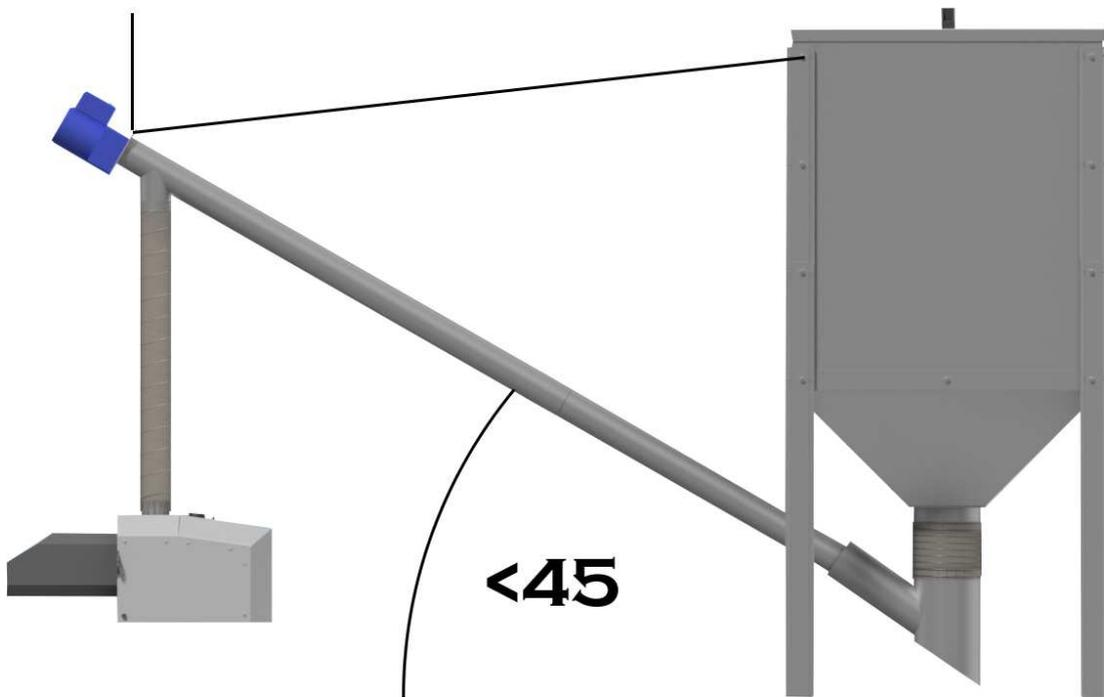

FIG. 2
5. Measure and adjust the pellet fuel feeder length; the angle between the floor and the fuel feeder duct must not be higher than 45°. (Ref. Fig. 2)
6. Suspend the fuel feeder on a chain sling. (Ref. Fig. 2)